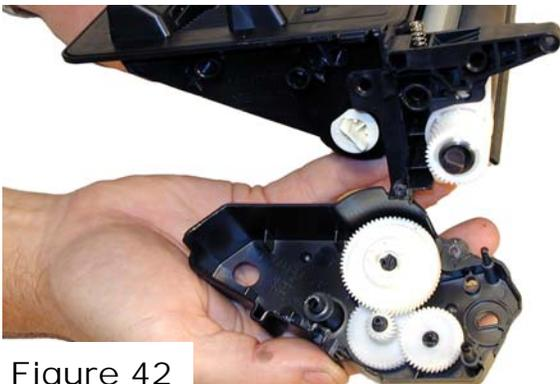

Figure 42
20) Remove the end cap. Note that the gears stay with it. See **Figure 42**.